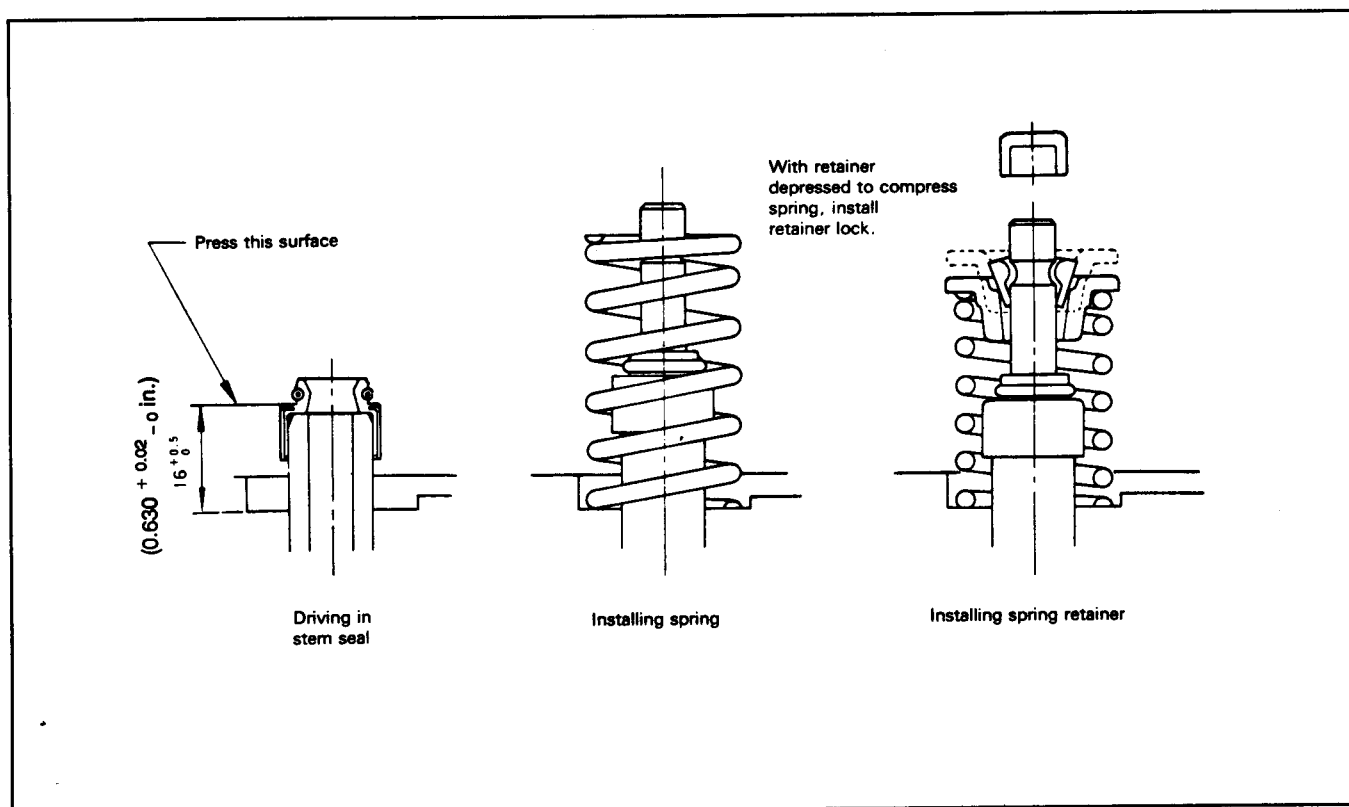

Figure 70
4. Install new valve stem seals onto the valve guides (Fig. 70). DO NOT install used seals.